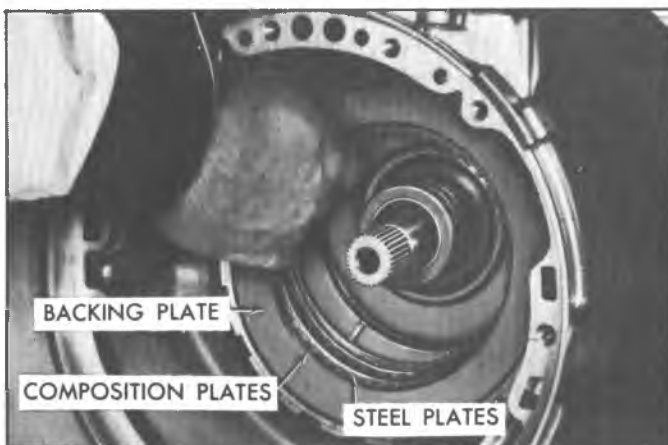

Fig. 34T--Removing Intermediate Backing Plate and Clutch Plates
12. Remove intermediate clutch backing plate, three (3) composition, and three (3) steel clutch plates (fig. 34T).
- a. (All except CY Model) Remove three (3) composition, three (3) steel clutch plates and one waved steel plate.
- b. (CY Model) Remove two (2) composition and three (3) steel clutch plates.